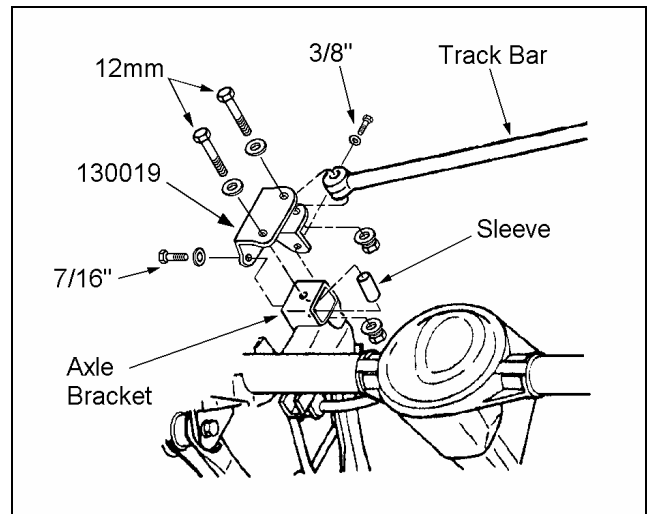

Figure 12
- 2) ☐ Disconnect the track bar from the frame bracket. See figure 12.
- 3) ☐ Reinstall the track bar bracket and attach it to the axle with the sleeve and hardware from kit 860072. See Figure 12. Tighten to specifications.